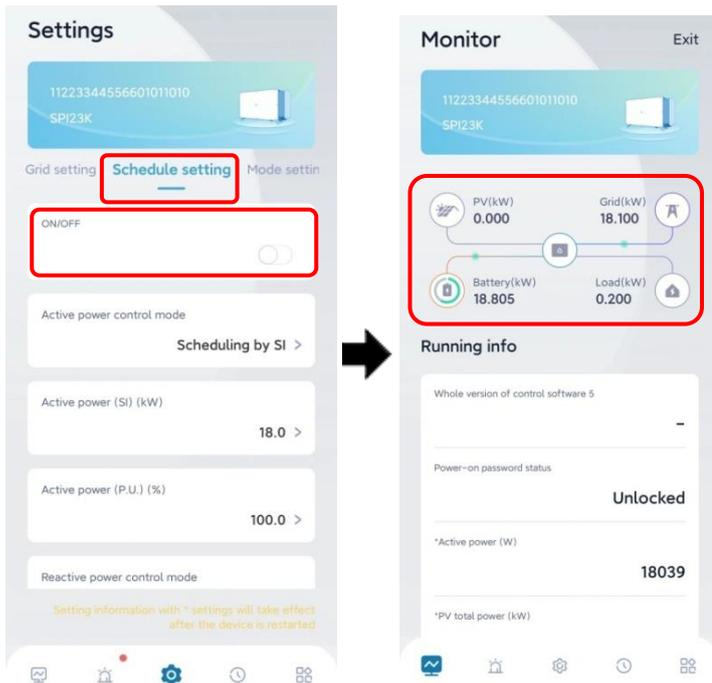

Figure4-13 Battery power-on setting
Step 2 Switch on the DC switches on the inverter and the project site, select **Schedule setting**, set **ON/OFF** to **ON**, which will show the battery supplies power for inverter, the inverter works normally, and the battery power and grid power is from 0k to 2k, as shown in Figure4-13.